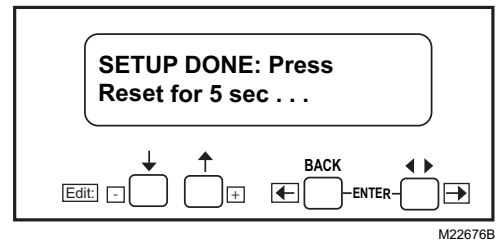

Fig. 12. Setup Done screen.
2. Press the down arrow to confirm the correct postpurge time. "Getting Data" will be displayed until the screen in Fig. 12 appears.
The Run/Test Switch is located on the top side of the relay module, see Fig. 12. The Run/Test Switch allows the burner sequence to be altered as follows: